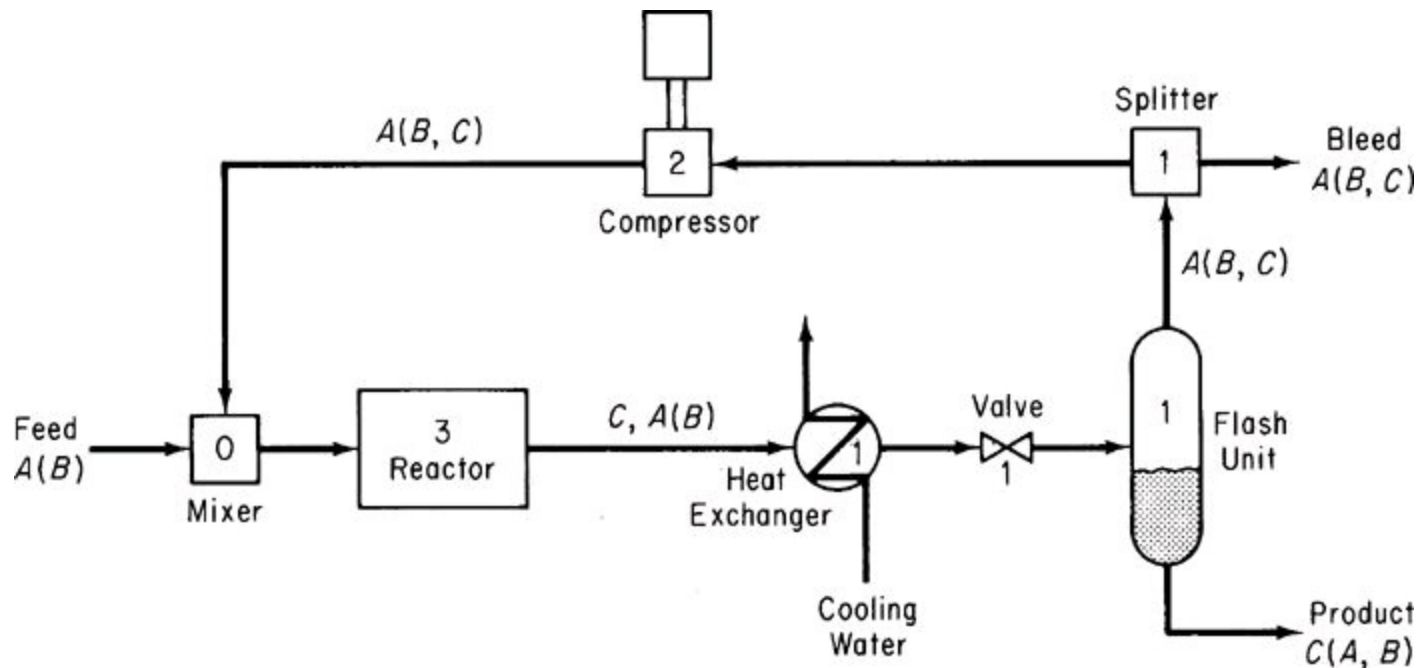

Figure P12.11
12.11. The flowsheet (Figure P12.11) has a high-pressure feed stream of gaseous component A contaminated with a small amount of B . It mixes first with a recycle stream consisting mostly of A and passes into a reactor, where an exothermic reaction to form C from A takes place. The stream is cooled to condense out component C and passed through a valve into a flash unit. Here most of the unreacted A and the contaminant B flash off, leaving a fairly pure C to be withdrawn as the liquid stream. Part of the recycle is bled off to keep the concentration of B from building up in the system. The rest is repressurized in a compressor and mixed, as stated earlier, with the feed stream. The number of parameters/variables for each unit is designated by the number within the symbol for the unit. How many degrees of freedom exist for this process?